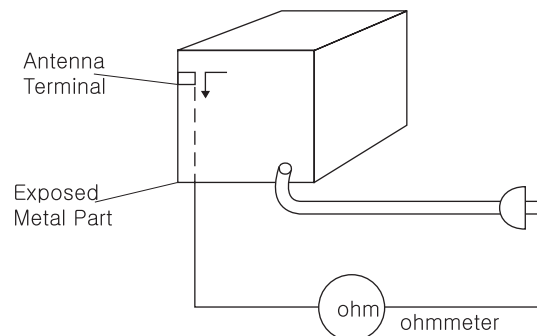

Fig. 1-2 Insulation Resistance Test
(2) Turn on the power switch of the instrument.
(3) Measure the resistance with an ohmmeter between the jumpered AC plug and all exposed metallic cabinet parts on the instrument, such as screwheads, antenna, control shafts, handle brackets, etc. When an exposed metallic part has a return path to the chassis, the reading should be between 1 and 5.2 megohm. When there is no return path to the chassis, the reading must be infinite. If the reading is not within the limits specified, there is the possibility of a shock hazard, and the instrument must be repaired and rechecked before it is returned to the customer. See Fig. 1-2.